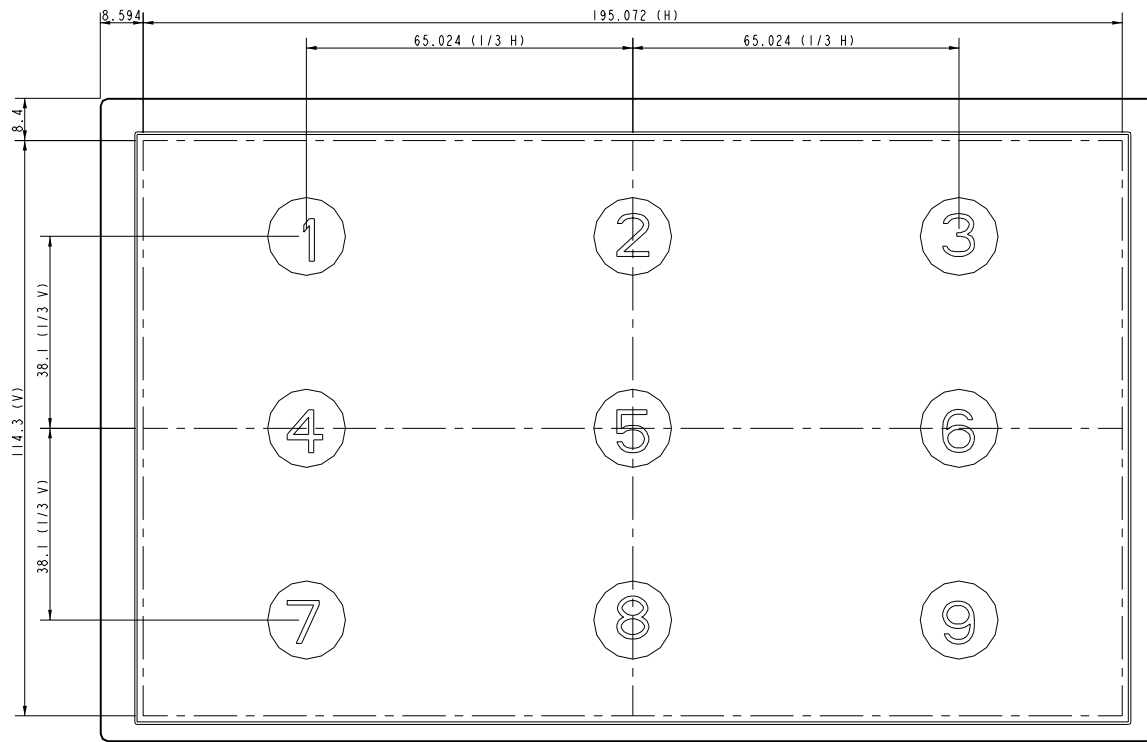

Fig. 8-1 Measuring point
*3) Definition of Luminance: Measuring white luminance on the point 5 as figure 8-1
Definition of Luminance Uniformity: Measuring white luminance on the point1 to 9 as figure 8-1